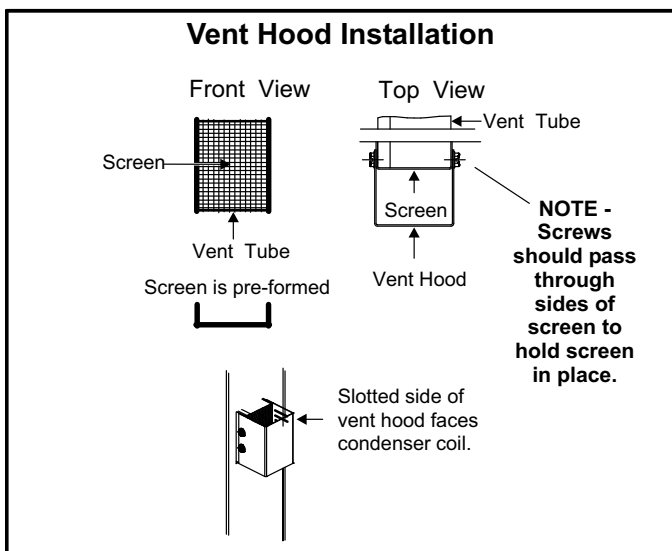

Figure 4
- 1 - Insert the vent screen into the vent tube. Once inserted, the screen should be flush with the end of the tube as shown in figure 4.